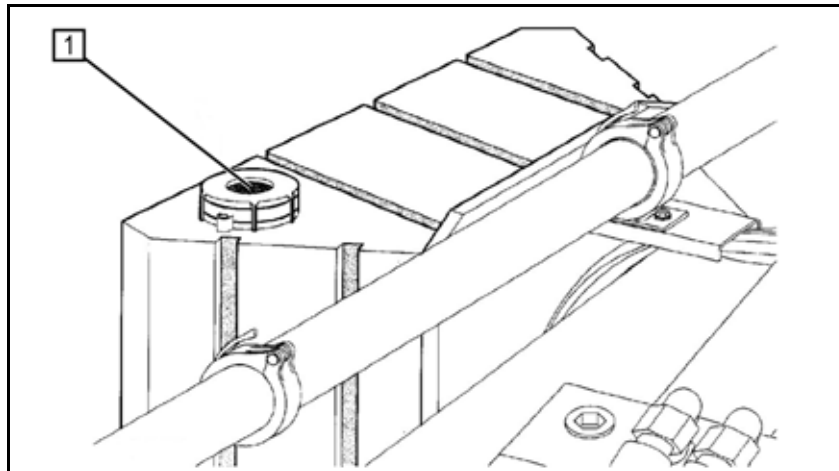

Fig. 46
► Open the filling cap of the water case (1) (Fig. 46)!